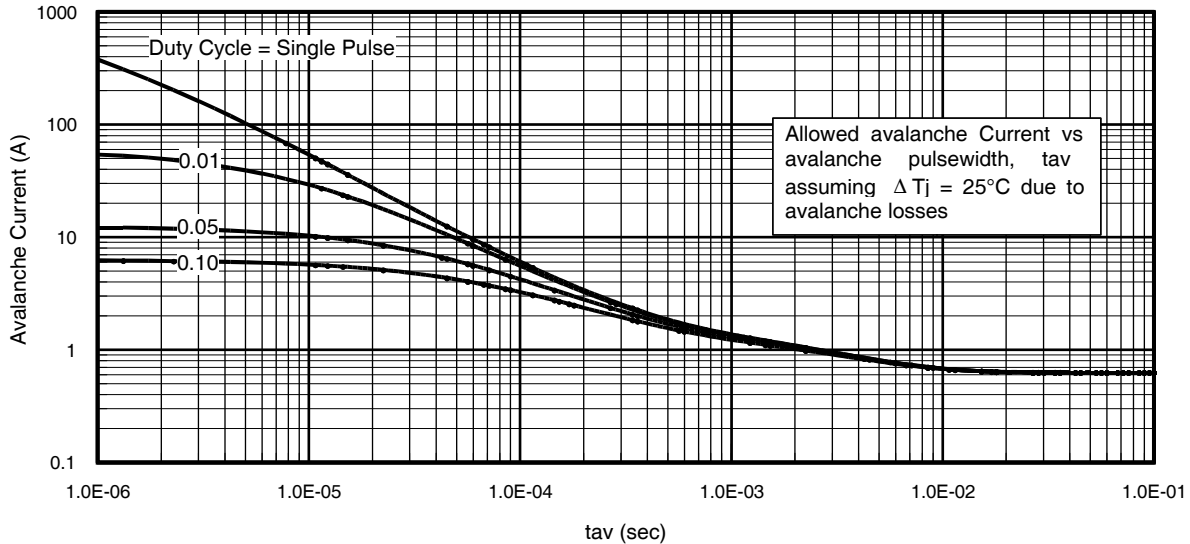

Fig 14. Typical Avalanche Current vs. Pulsewidth
Notes on Repetitive Avalanche Curves, Figures 14, 15:
7. ΔT = Allowable rise in junction temperature, not to exceed T_{Jmax} (assumed as 25°C in Figure 14, 15).